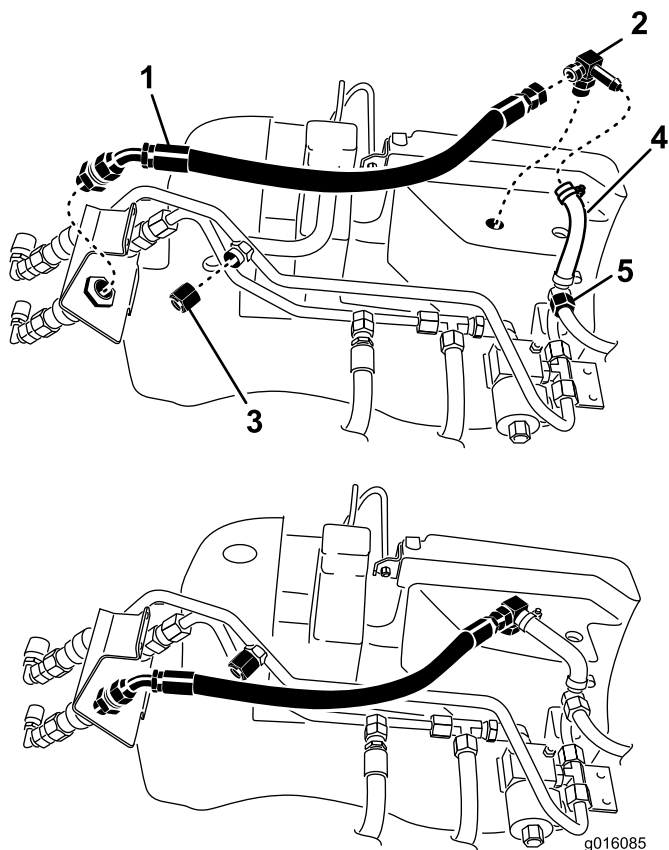

Figure 9
4. Install the new small tee fitting into the hydraulic tank. Position the fitting as shown in Figure 9.
5. Connect the new small molded hose to the new tee fitting and the small hydraulic tube using the clamps previously removed (Figure 9).
6. Install the hydraulic cap to the hydraulic line port (Figure 9).
7. Loosely install the new hydraulic hose to the coupler fitting and the small tee fitting (Figure 9).